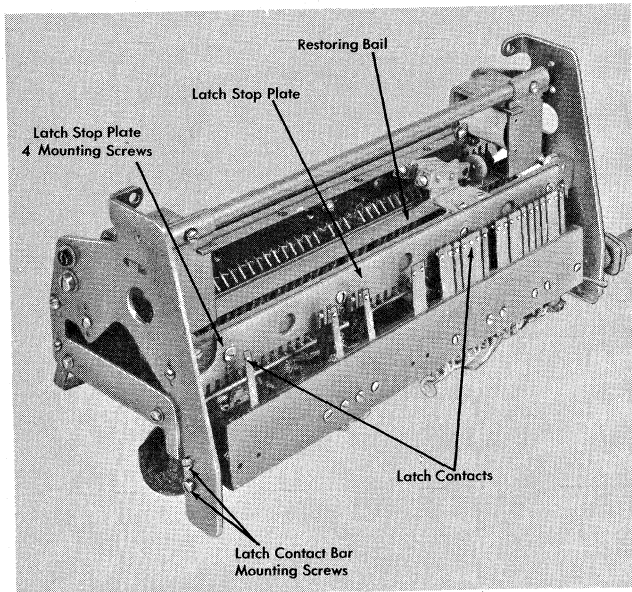

Figure 93. Keyboard Permutation Unit
1. Loosen the four screws (Figure 93) that hold key unit to permutation unit.
9. Remove the four screws from latch stop plate (Figure 93).